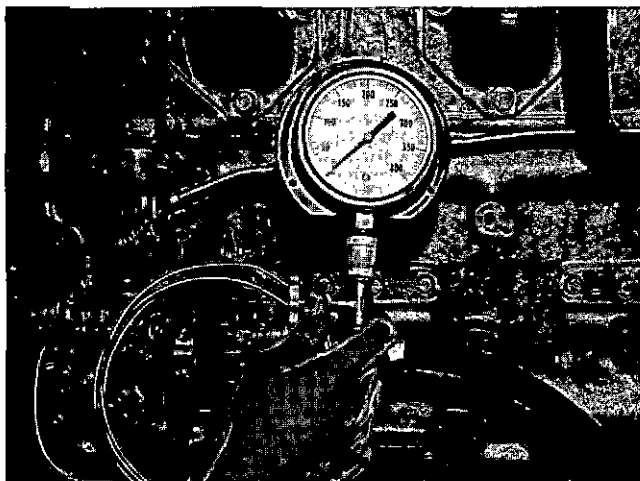

Fig. 10-3-3, V41021. Checking fuel manifold pressure
3. Check fuel manifold pressure on engine with ST-435 Pressure Gauge. Fig. 10-3-3: Accelerate engine from idle to full throttle and record maximum pressure indicated on ST-435 Gauge.